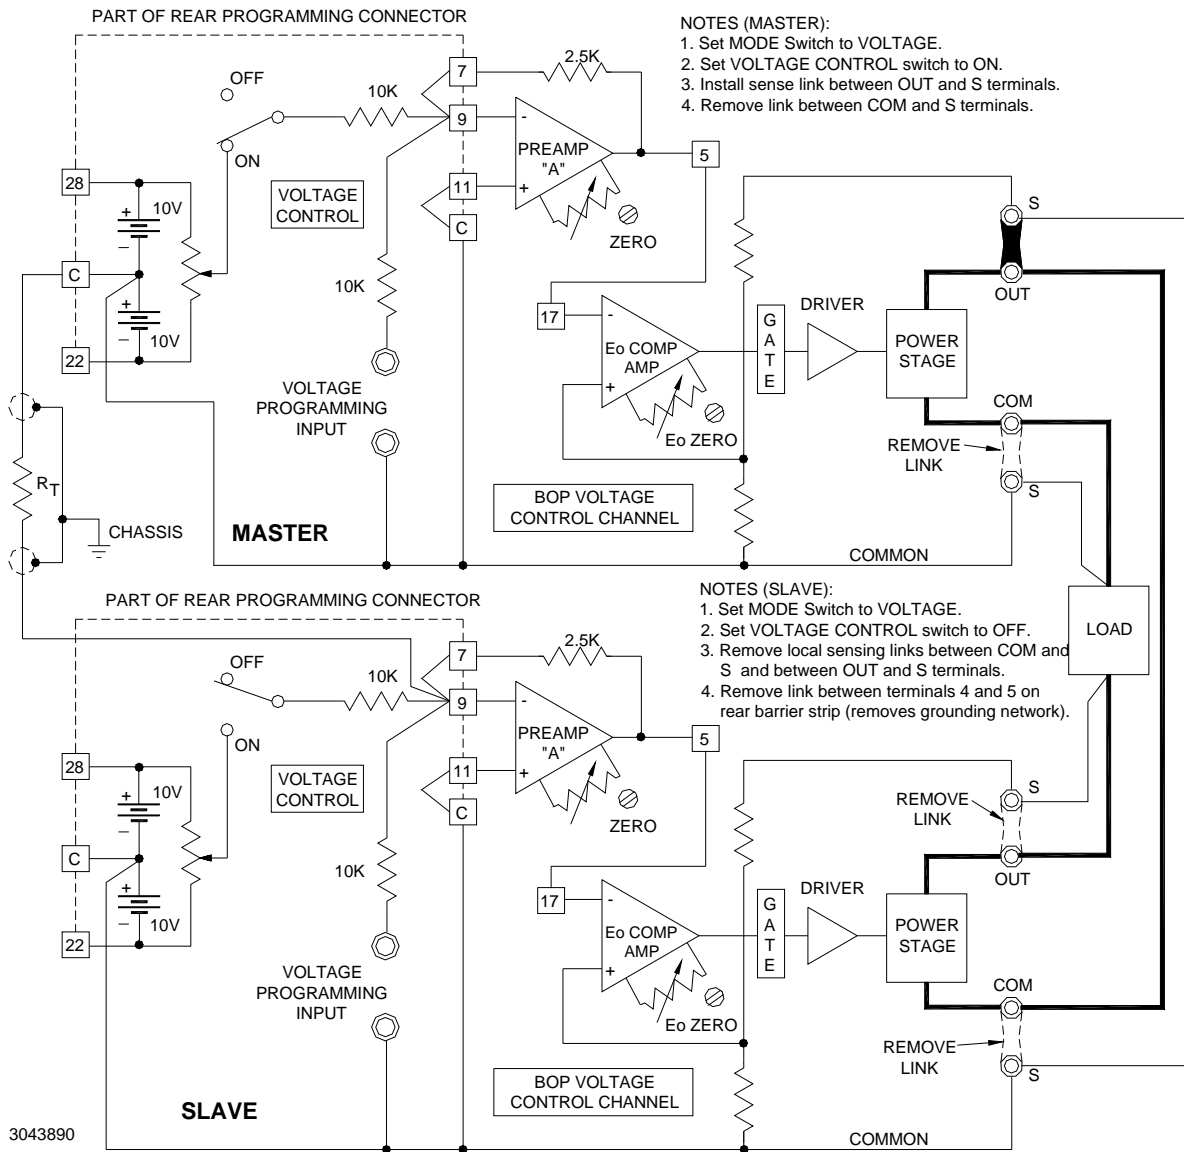

FIGURE 3-23. SERIES CONNECTION (MASTER/SLAVE) OF TWO BOP POWER SUPPLIES, WITH REMOTE ERROR SENSING AT THE COMMON LOAD
Three BOP power supplies can be connected in series to increase output voltage. One series-connection limitation is the isolation limit of the BOP itself (500V); contact Kepco if more than three units in series are required. The slave units are set to always be in voltage mode, adding to the output voltage of the master by repeating the master's voltage, while the master can operate in either voltage mode or current mode as needed. Figure 3-23 shows a master/slave connection of two BOP power supplies.
To extend the concept of series connection to more than two BOP units, refer to FIG. 3-23. The BOP unit now designated the SLAVE becomes the a kind of master for the next BOP unit to be added. Simply place the BOP outputs in series and connect a further coupling resistor (R_T) from the present SLAVE, terminal [C] to the new SLAVE, front panel VOLTAGE PROGRAMMING INPUT. Place the MODE switch on the BOP added to the series combination to VOLTAGE and the VOLTAGE CONTROL switch OFF.
1. Connect the BOP supplies as shown in Figure 3-23. Set the MODE switches and the VOLTAGE CONTROL switches as directed in the set-up diagram, Figure 3-23.
2. Turn BOP's on and begin operation. The system as shown in Figure 3-23 operates in Voltage Mode, since the Master MODE switch is in VOLTAGE position. For operation in Current Mode, transfer the Master MODE switch to CURRENT.